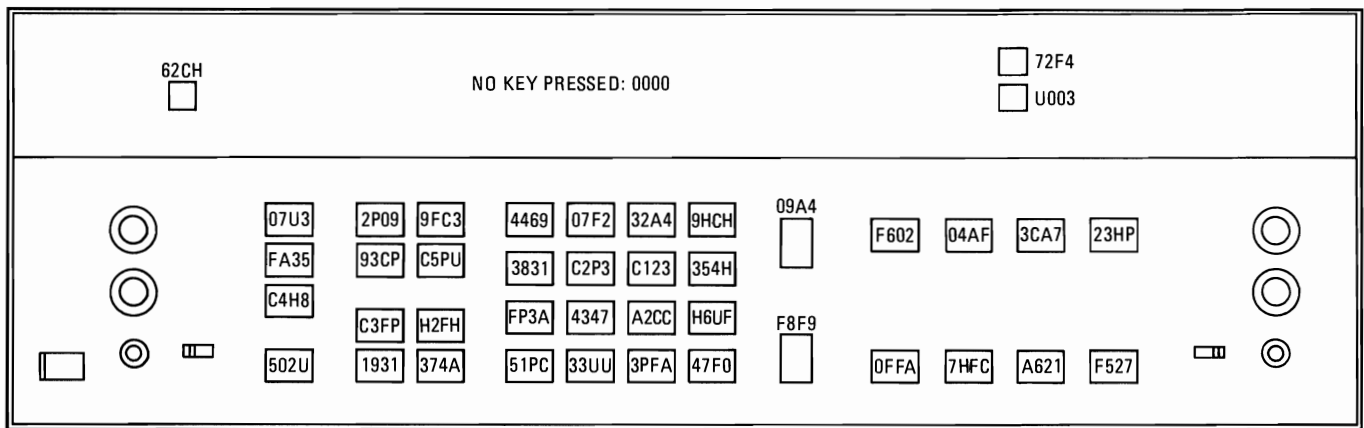

Figure 8-105. Signatures for the Front-Panel Keys and Scanners Check
6. Press the front-panel keys and note the signature. The signatures are documented in Figure 8-105.